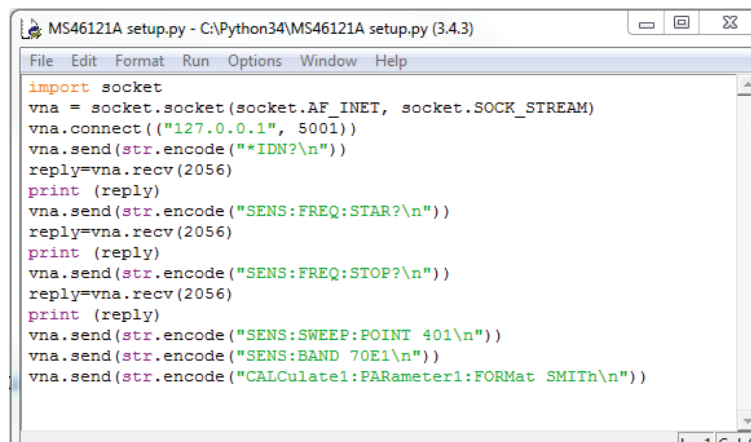

Figure 1-12. Execution of the MS46122A/B Python Script
8. The input of the script should look like Figure 1-12.